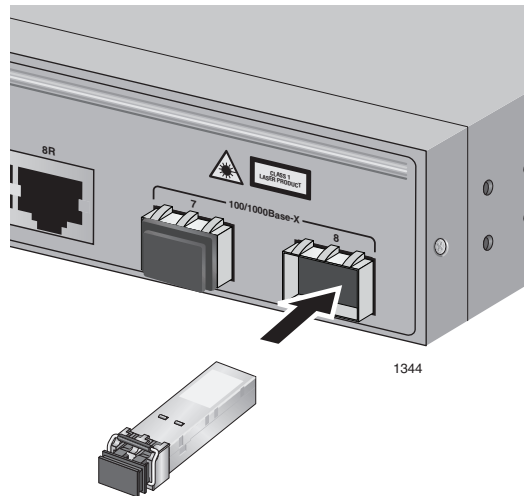

Figure 15. Installing an SFP Transceiver
4. Slide the transceiver into the slot until it clicks into place. See Figure 15.